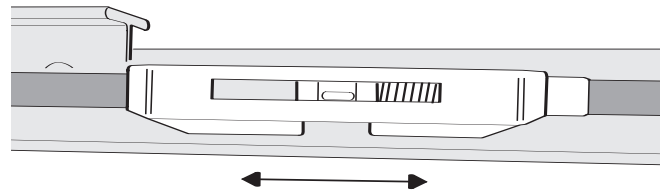

Figure 2 Examine where the carriage stops
- C Examine where the carriage stop (**Figure 2**).